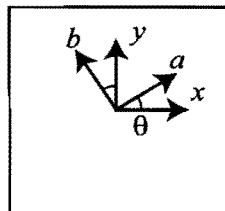

Figure 4
6. An orthogonal set of axes a, b are rotated at an angle θ from a set of axes x, y , as shown in Figure 4.